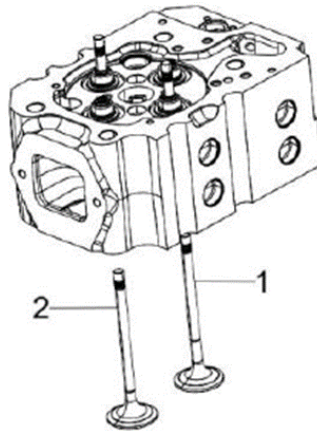

Figure 80. Valve Assembly
4. Place all the valves (Figure 80, items 1 and 2) in their proper location in the cylinder head.